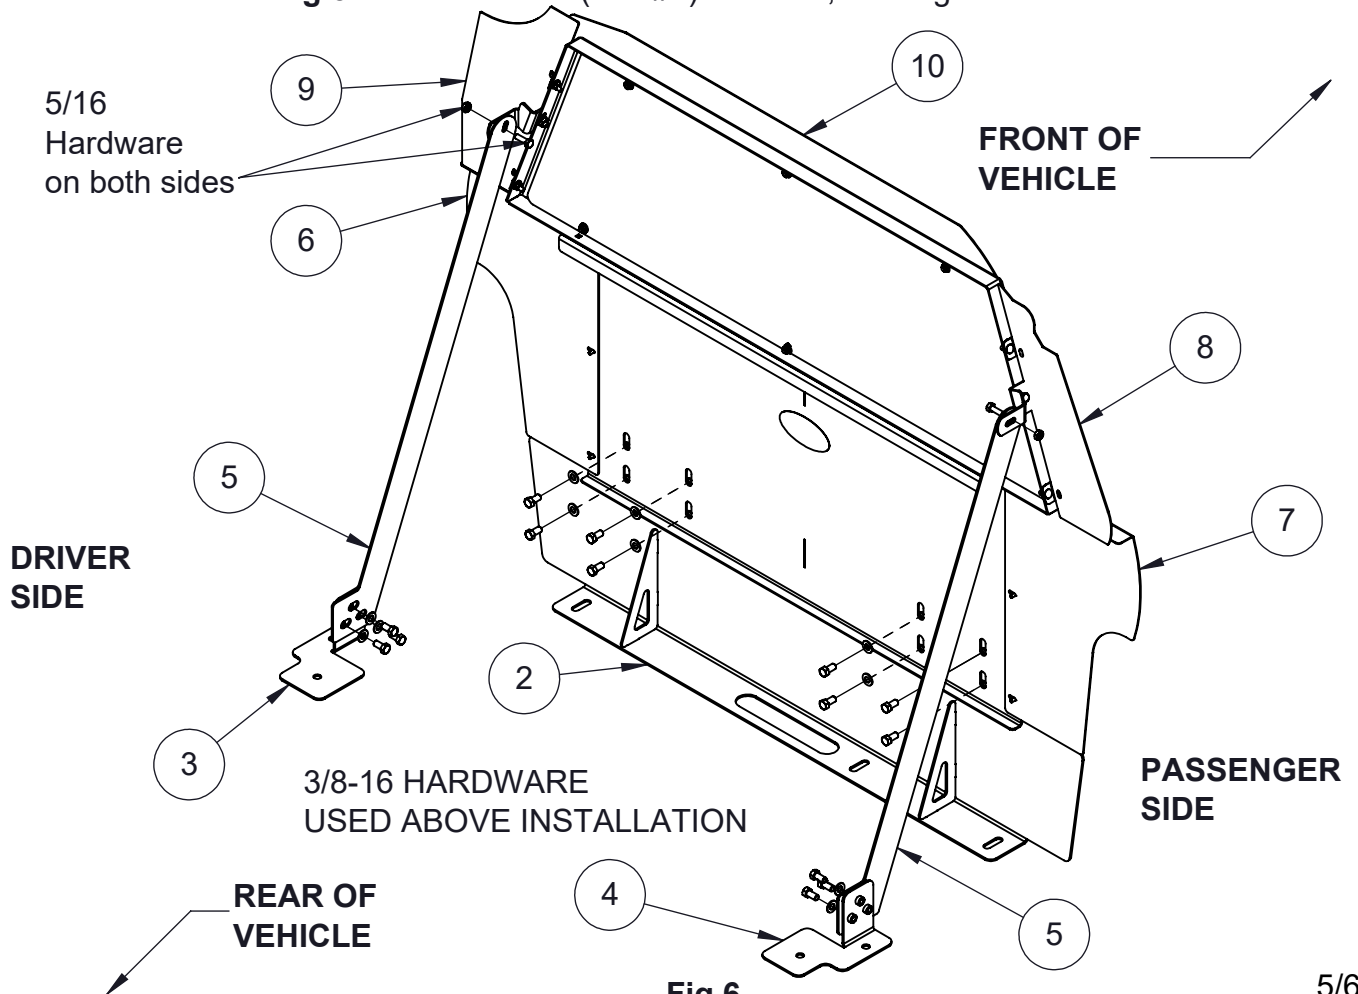

Fig.6
5. Place Main Frame(Item#1) inside vehicle such that label faces towards rear door. (Fig.6)
6. Using 3/8-16 hardware provided attach lower bracket (Item#2) to main frame (Item#1) (Fig.6)
7. Attach kicker rods (Item#5) to main frame (Item#1) ,See Fig.6 Using 5/8-16 hardware provided.